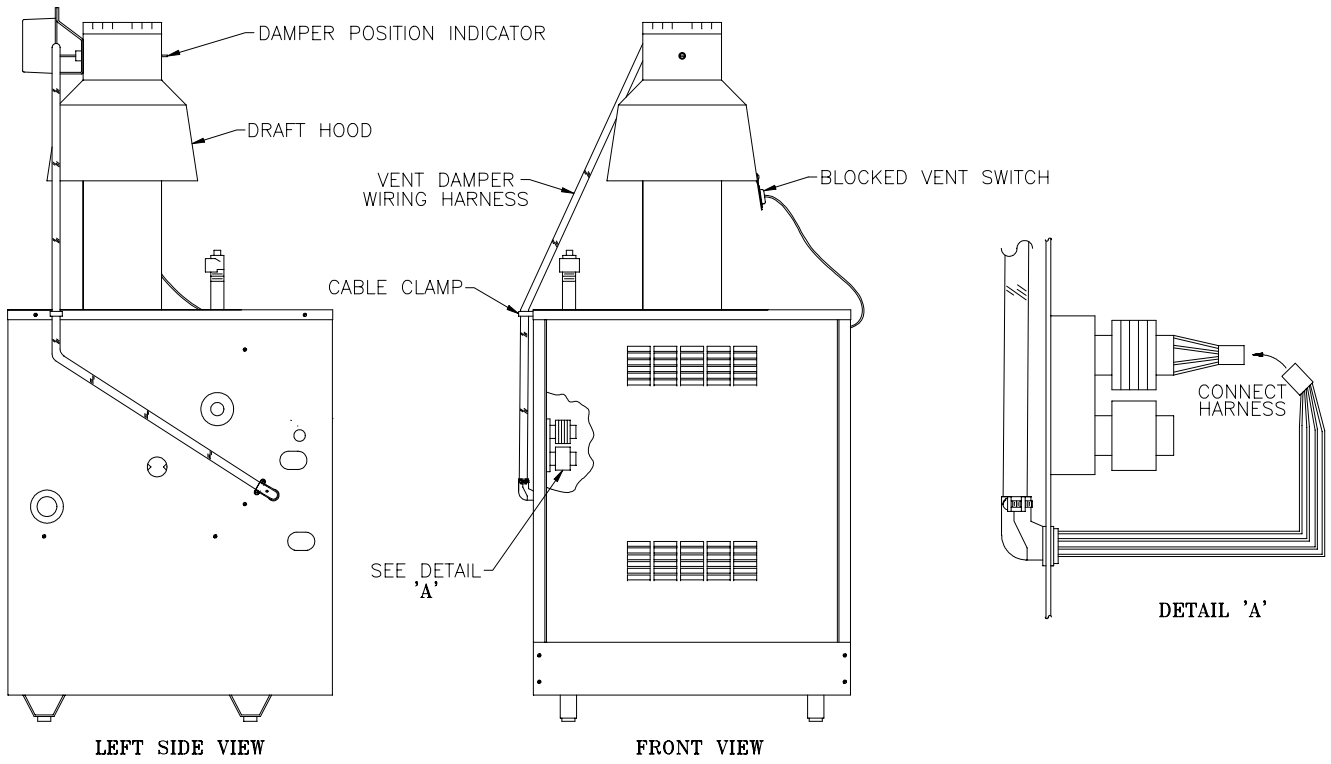

Figure 7: Plug-in Damper Installation
- B. Refer to Figure 7 in this manual.
Please refer to the specifications, installation instructions and troubleshooting guide packed in the vent damper carton for complete detailed installation instructions. Also refer to Figure 7 in this manual.
- D. Install the 90° BX connector attached to the flexible conduit in the 7/8" knockout on the left side of the jacket. Plug the factory wired Vent Damper Harness into the polarized receptacle. Install a cable clamp around the flexible conduit and attach to the Jacket top panel. (See Figure 7).